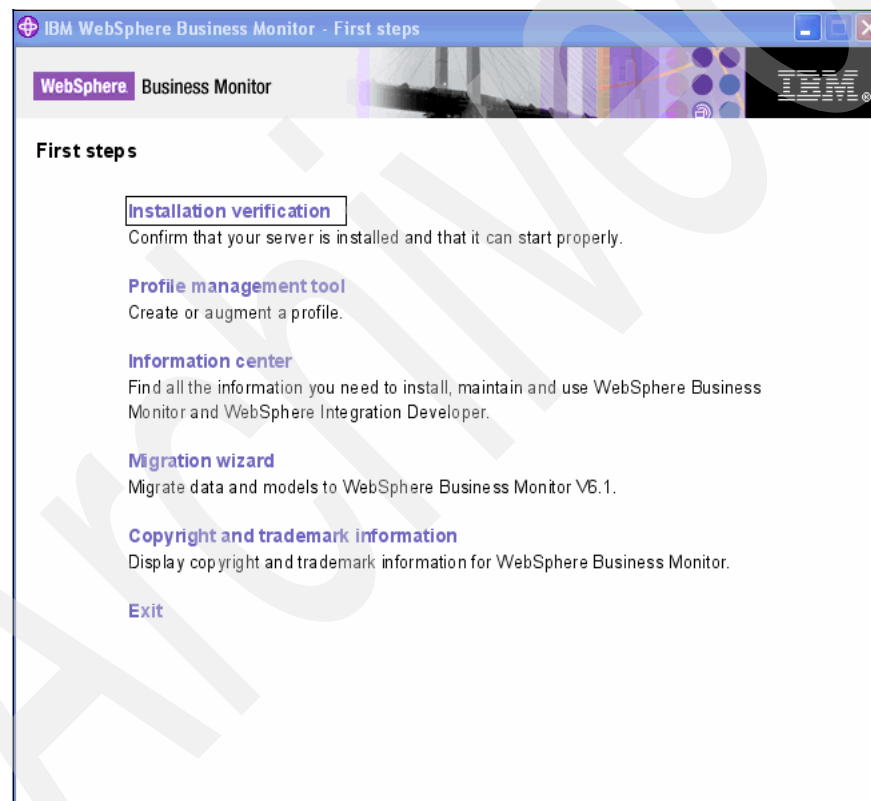

Figure 3-32 Verifying the WebSphere Business Monitor installation
2. In the First steps panel (Figure 3-32), select **Installation Verification**.